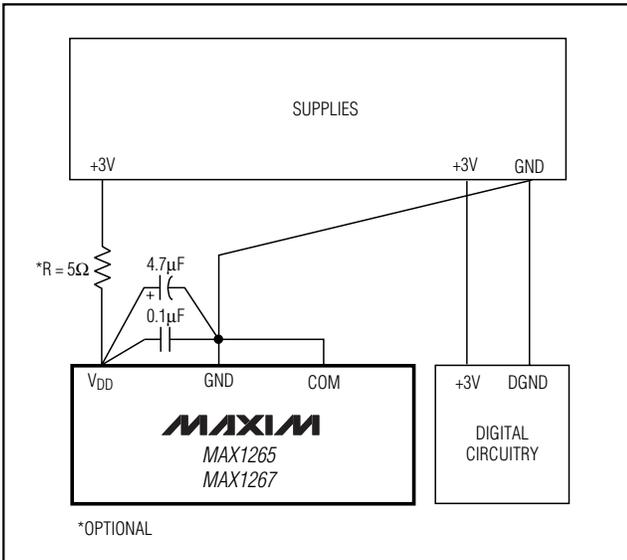

Figure 11. Power-Supply and Grounding Connections
For best performance, use printed circuit (PC) boards. Wire-wrap configurations are not recommended since the layout should ensure proper separation of analog and digital lines parallel to each other, and do not lay out digital signal paths underneath the ADC package. Use separate analog and digital PC board ground sections with only one star point (Figure 11) connecting the two ground systems (analog and digital). For lowest noise operation, ensure the ground return to the star ground's power supply is low impedance and as short as possible. Route digital signals far away from sensitive analog and reference inputs.